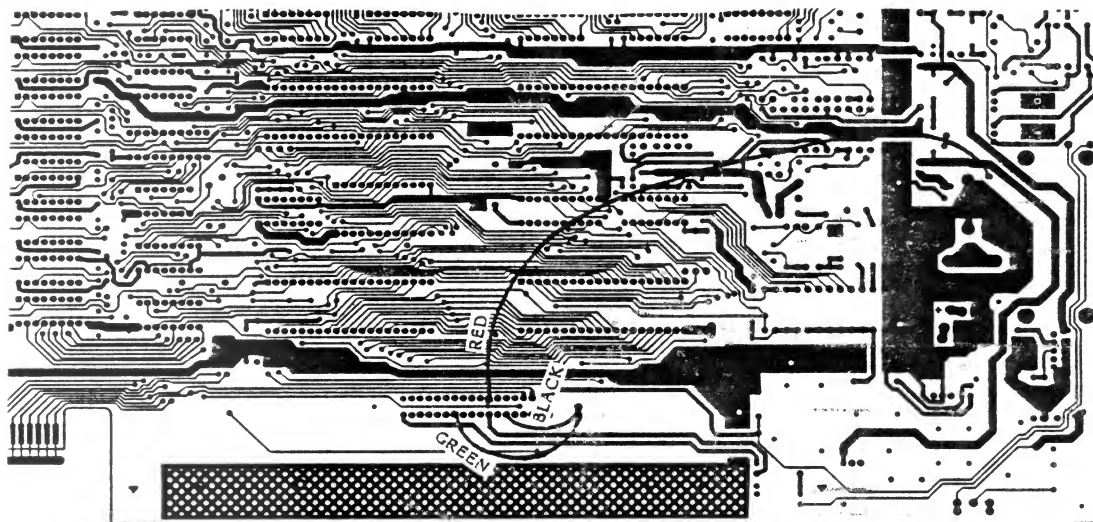

Figure 4. Wire Connection Diagram.
7. Using Figure 4 as a reference, perform the following:
- 10. Replace the shielding on the unit ensuring that the red wire is routed as in Fig. 4.